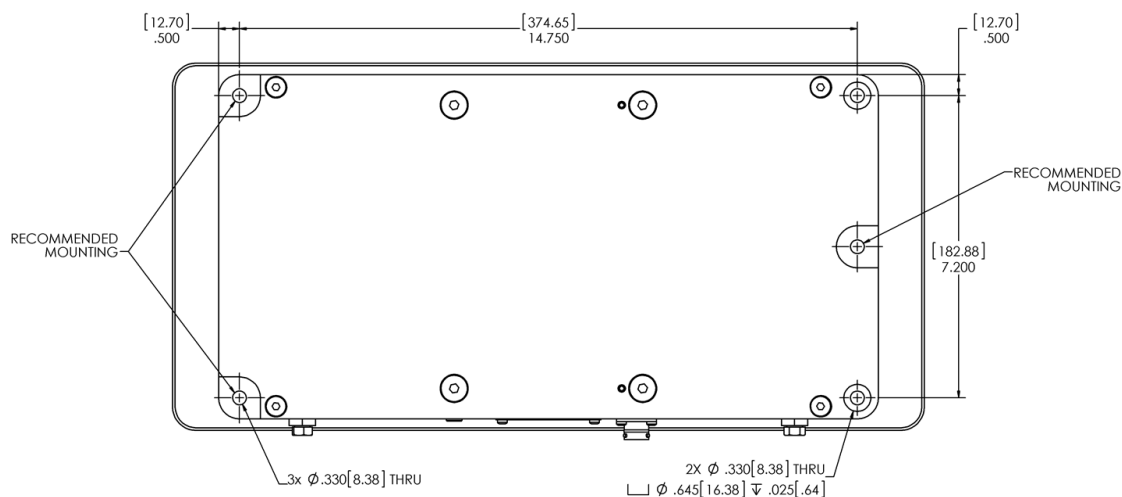

Figure 5: AFD80-3 Mounting Bracket Hole Locations
The AFD80-3 is designed for mounting on a stationary fixture. It has (3) three 0.28" (7.0 mm) mounting holes spaced as shown in Figure 5. The AFD80-3 Table Top Mounting Bracket should not be modified without first consulting PushCorp, Inc.